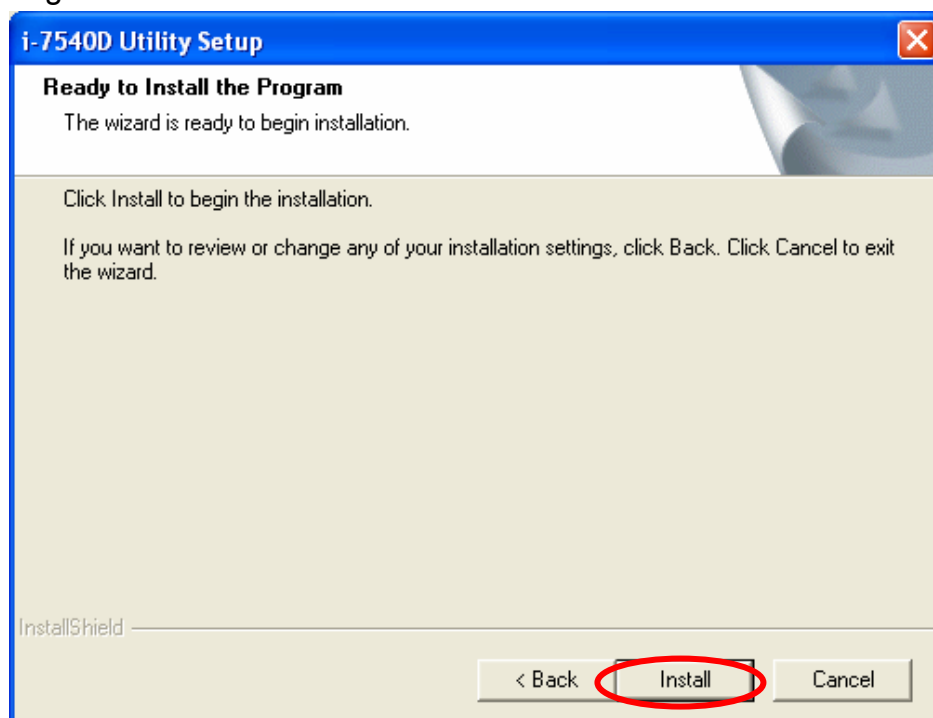

Figure 3-4: “Ready to Install the Program” dialog
**Step 5:** Click “Next” button and a “Ready to Install the Program” window will pop up to prompt user that the wizard is ready to begin the installation See figure 3-4.